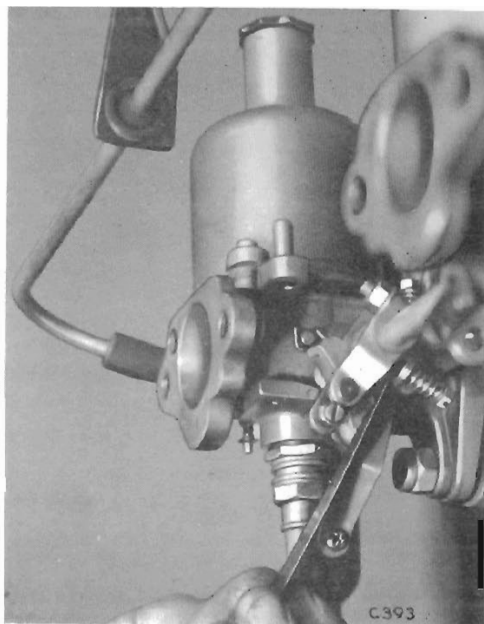

**Fig. 12.** Cross section of
**Jet Centralising (Fig. 12)**